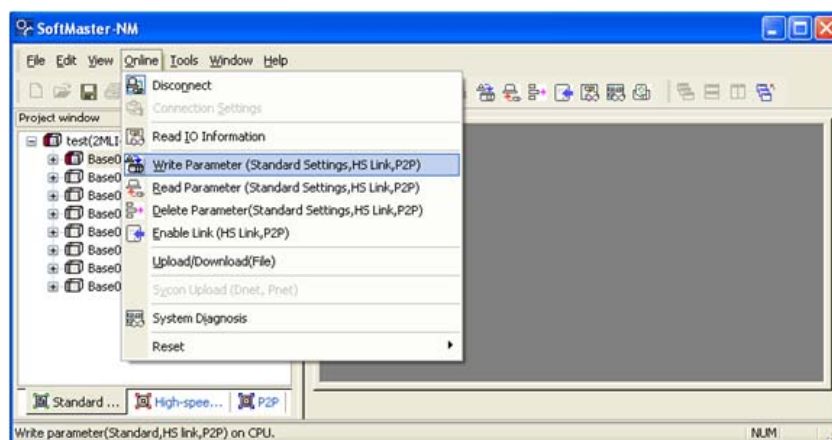

Figure 24 – Parameter Write window
- 2 After connection is established, from **Online** menu, select **Write Parameter (Standard settings, HS link, P2P)** to download the parameters as shown in Figure 24. It specifies standard settings items of the base and slot positions of FENet I/F module for which the parameters are downloaded.